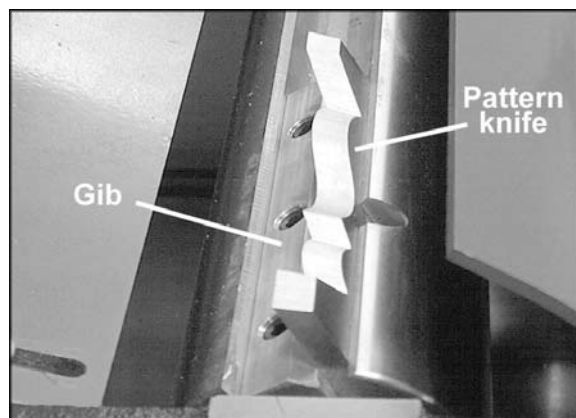

Figure 29
3. Re-install the jack screws. Install the aluminum gib and then the pattern knife into one of the cutterhead slots. See Figure 29. Tighten the gib set screws. Double check during this tightening, to insure against the knife creeping up during the tightening process. If necessary, tap the knife down with a hard wood block until it has bottomed out in the cutterhead slot.